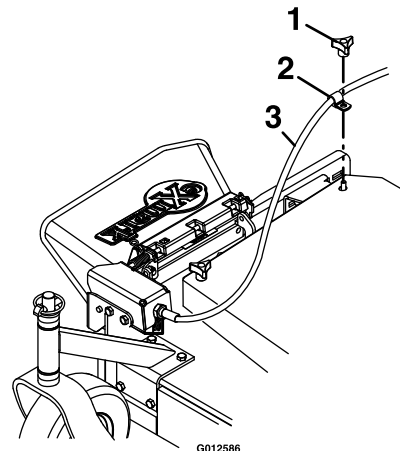

Figure 9
- G. If the mower deck is not equipped with belt shield knobs, skip to step H. If the deck does have belt shield knobs, secure the loom clip by removing the rear knob on the belt shield. Place the loom clip onto the belt shield stud and reinstall the knob onto the belt shield (Figure 9).